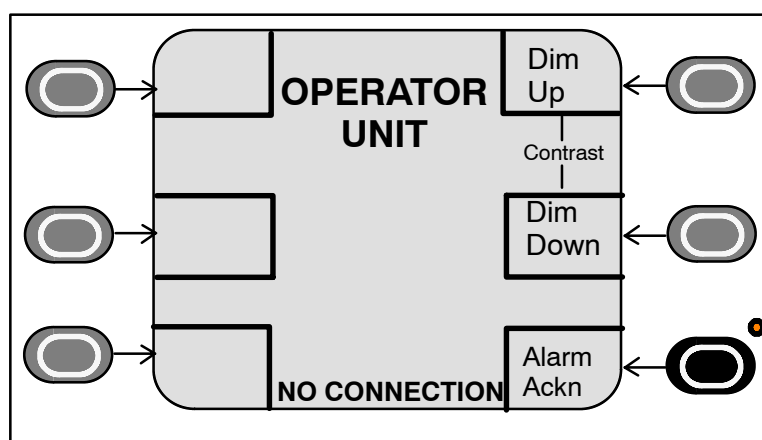

Figure 19: Controls and Indicators on the Operator Unit
- 3.) The display alters after 3-5 seconds and the error message "NO CONNECTION" is displayed. (see Figure 19).